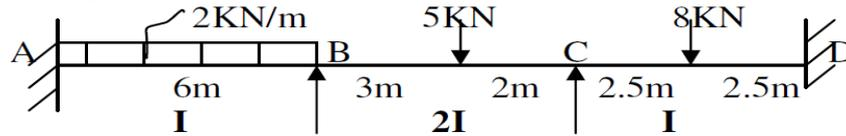

Fig.5
25. a) Analyse the continuous beam shown in fig.5 by moment distribution method and draw the bending moment diagram.